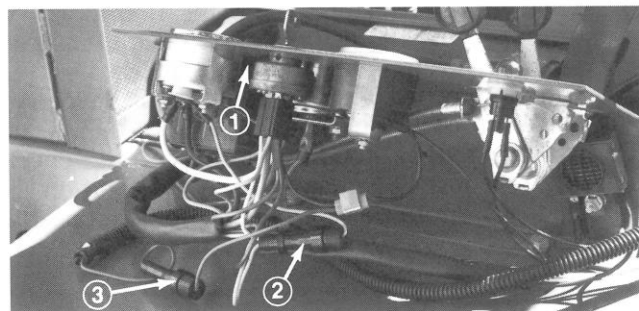

Figure 21
**Electrical System Fuses** (Fig. 21) — An engine temperature reset relay fuse — SFE 14 amp — is located at the rear of the reset relay. An inline fuse — AGC 15 amp — is also incorporated for the interlock switch system. Access to the fuses can be gained by removing the instrument panel cover.